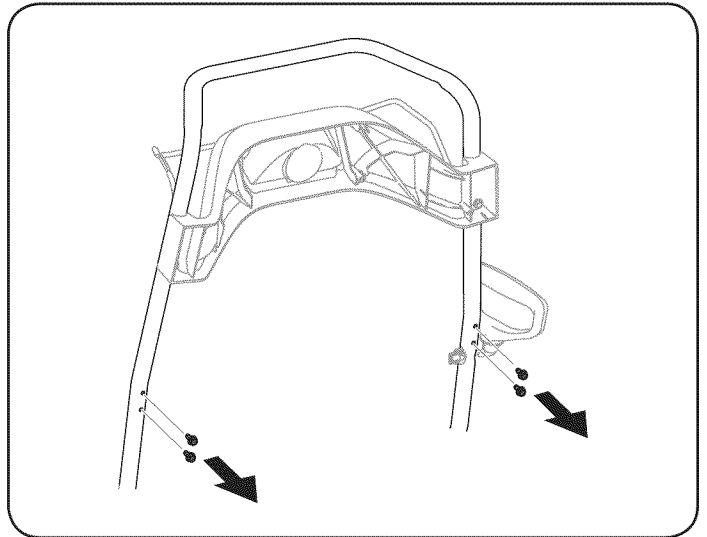

Figure 6
1. Remove the four hex washer screws from the back of the handle (two on each side). See Figure 6.